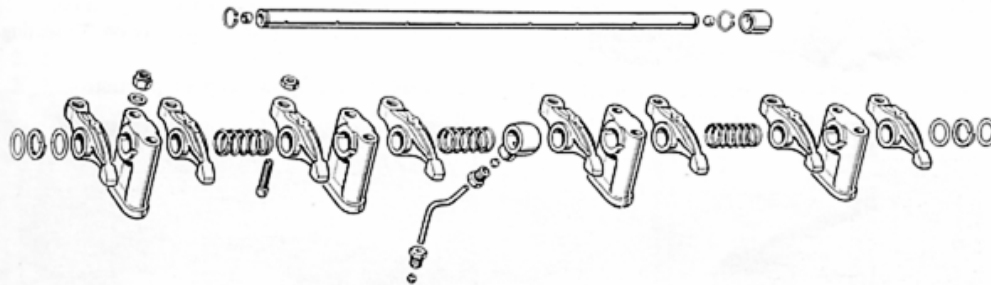

Fig. G.14. Exploded view of Rocker Shaft Assembly.
2. Refit rocker levers, springs and support brackets in the opposite order to which they were removed. (Fig. G.14). Lightly oil the components during re-assembly and ensure that each rocker lever does not bind on the shaft.